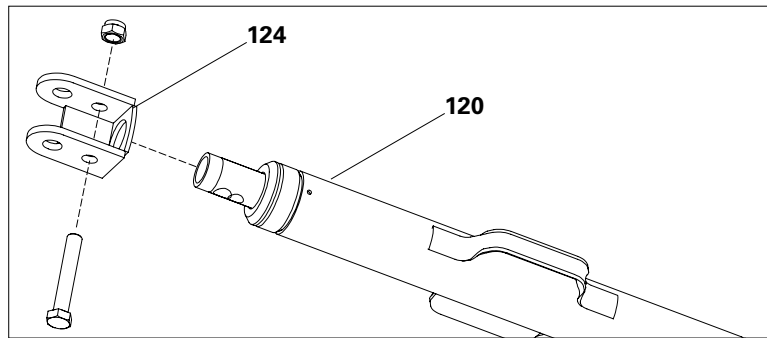

Fig. D1.11
1. Mount the Forkhead Adapter (124) on the building side of the Heavy-Duty Spindle (120) using the provided bolt and nut. (Fig. D1.11)
2. Connect the Spindle Shoe SLS/RCS (121a) to the Enclosure Post (1) using one fitting pin  $\varnothing$  26 (25) and one fitting pin  $\varnothing$  21 (24). Secure both fitting pins with cotter pins (26 + 27).
3. Connect Heavy-Duty Spindle (120) to the Spindle Shoe (121a) using the fitting pin  $\varnothing$  21 mm (24) and cotter pin (26).